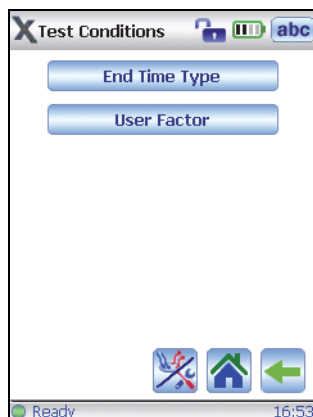

Figure 4-23 The Test Conditions screen
3. In the **Test Conditions** screen, tap **End Time Type** (see Figure 4-23 on page 80).